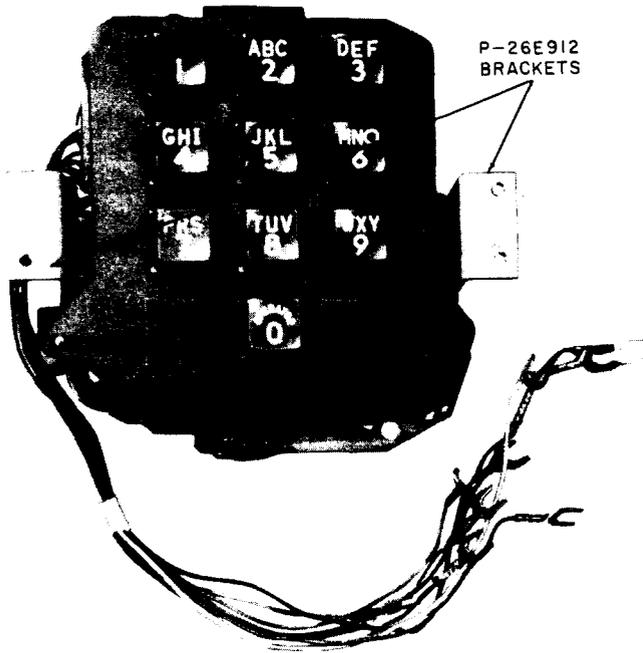

Fig. 1—25Y3 Dial With P-26E912 Brackets
**2.06** The 25B3 and 25Y3 dials are designed for flush mounting and are normally covered by a faceplate. Brackets are required (order separately) to facilitate mounting the dial to a 1/8-inch thick wall panel or similar flat location. Two screws, furnished as part of the dial, secure the brackets to the dial frame. Hardware for securing the brackets to the panel is not furnished. Fig. 1 shows the dial with two brackets attached.